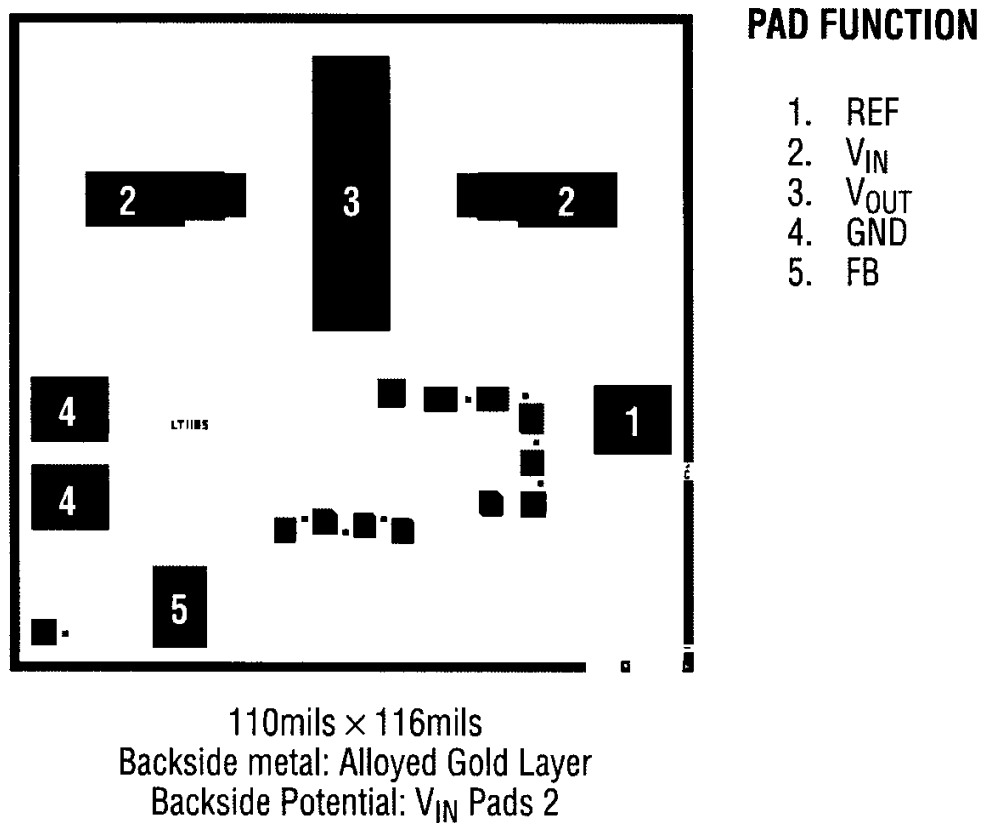

FIGURE 1
3.6 Outline Dimensions and Pad Functions: Dice outline dimensions, pad functions, and locations shall be specified in **Figure 1**.